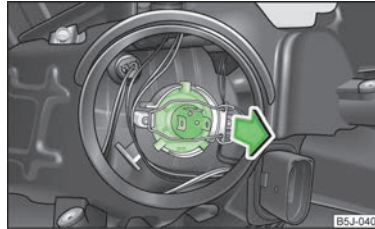

Fig. 147
- Remove the connector on the bulb, unlock the circlip, and remove the light bulb » Fig. 147.